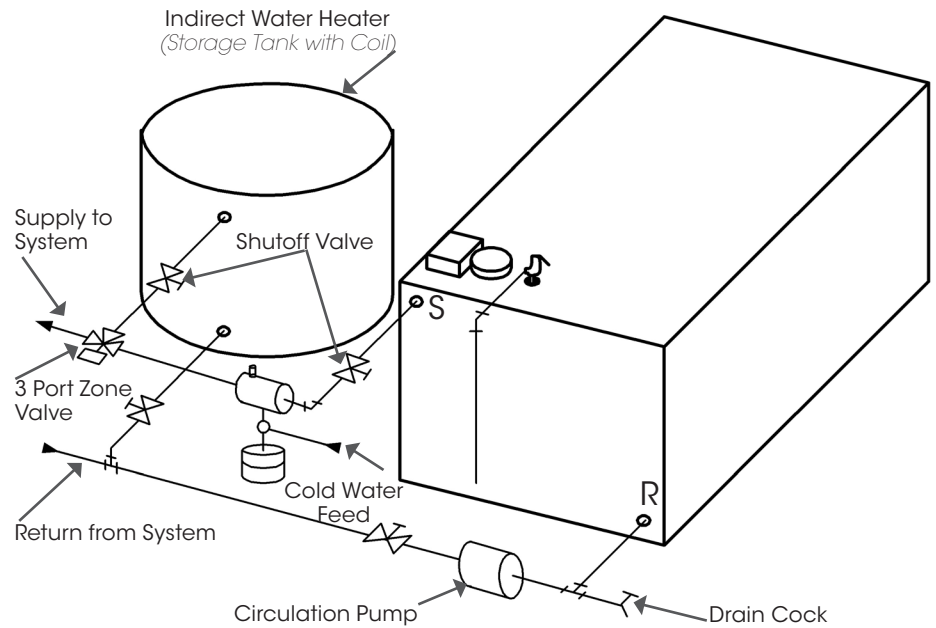

Figure 22
5. Integrated system (heat and domestic hot water): With a single heating zone priority for domestic hot water may be provided through the use of a 3-port zone valve. This system assures that full boiler output is available to recover the storage tank quickly and should be used where supply of domestic hot water on demand is critical. For this application use a full throated valve with a minimum pressure drop. See Figure 22.